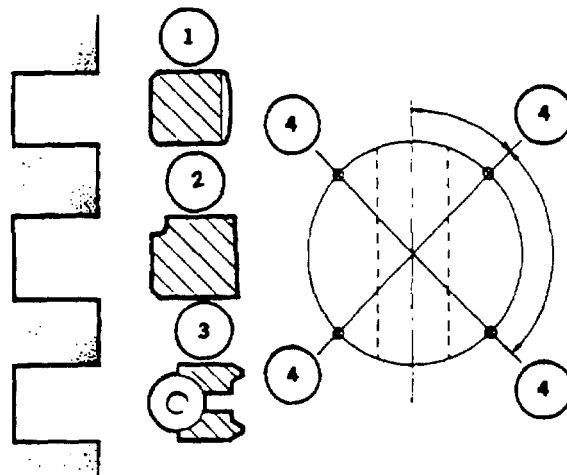

FIGURE 3-37. Piston Ring and Gap Location
- a. Use a standard ring expander to remove piston rings (6).
- b. Remove retaining rings (7) and push pin (8) out of connecting rod (3) and piston (5). Separate piston (5) from connecting rod (3).
- c. If necessary, replace bushing (9) from connecting rod (3).
- d. Install piston (5) to connecting rod (3) with wording CAMSHAFT SIDE on top of piston to same side as identification marks on connecting rod big end and cap.
- e. Insert piston pin (8) and secure with two retaining rings (7).
- f. Use a piston ring expander and install piston rings (6) with word TOP facing up as follows. Refer to FIGURE 3-37:
- (1) Lower groove-oil control ring.
- (2) Middle groove-compression ring.
- (3) Top groove - firing ring.